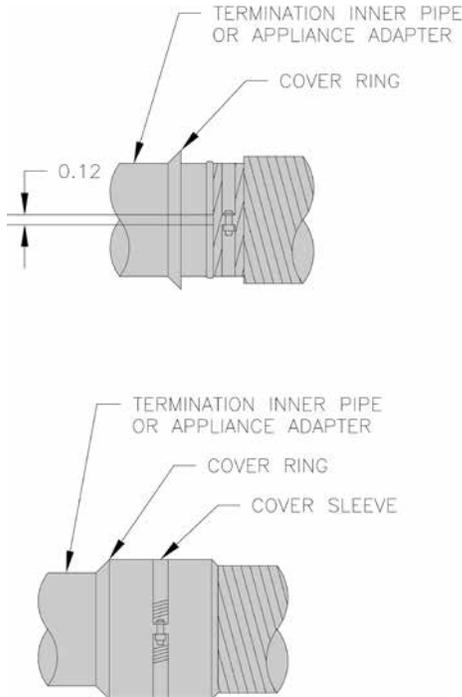

Figure 24: Vent Pipe Assembly to Vent Termination Inner Pipe & Appliance Adapter
12. Tighten the inner pipe clamp bolts at both vent pipe ends, until clamp halves are within 1/8" apart. See Figure 24.
13. Starting with vent termination end, slide the cover sleeve assembly and the cover ring together to engage the ring in the groove of the sleeve, then, tighten the built-in cover sleeve clamp. Repeat above steps at the boiler end. See Figure 24.